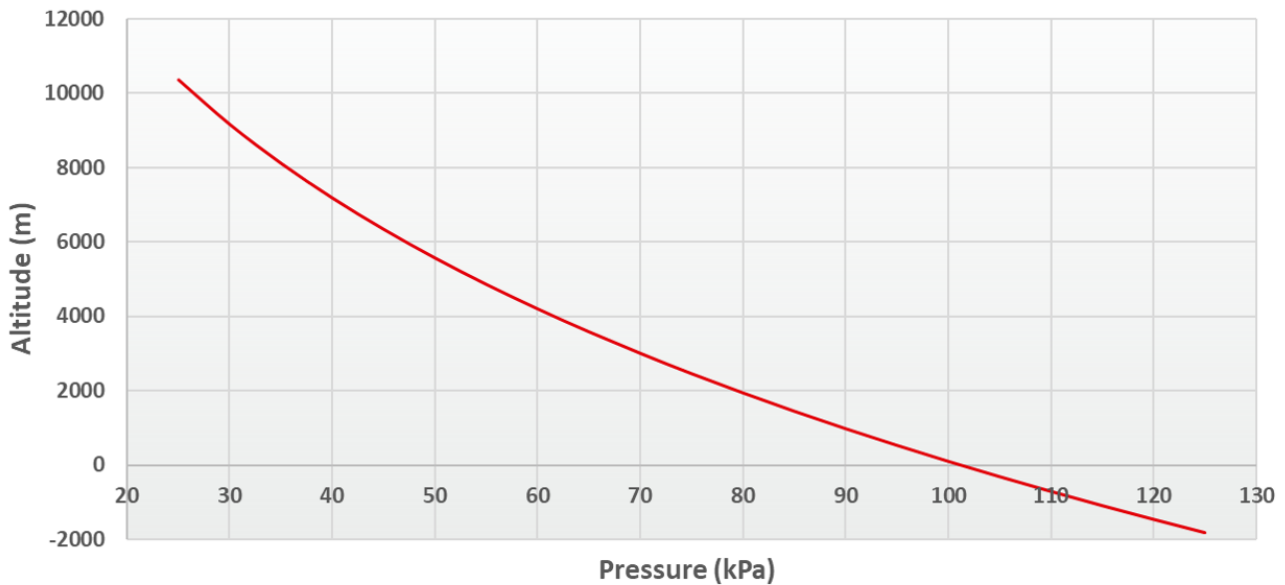

Figure 1: Altitude variation with atmospheric pressure
Based on the equation, altitude-pressure relationship can be plotted as shown in the figure 1.
Atmospheric pressure and altitude relationship as shown in the figure 1 follows the equation (1). Atmospheric pressure is measured against the vacuum as a reference. As same reference is used in the absolute pressure sensors, they can also be used as altimeters.